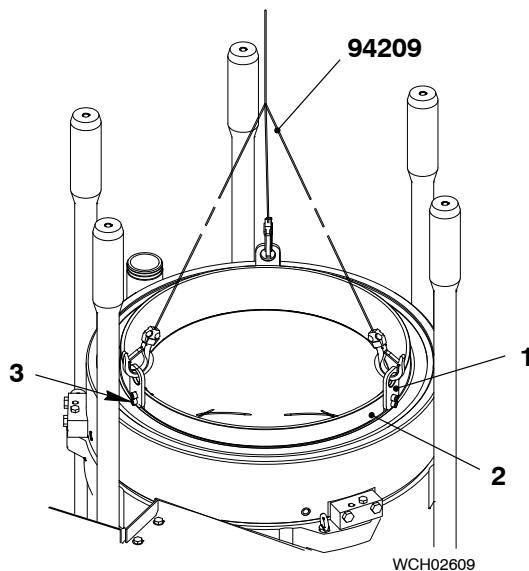

Fig. 13
- 28) Connect the crane hook to the lifting tool (94209, Fig.13).
- 29) Attach the four plates (1) to the antipolishing ring (2) with the four screws (3).
- 30) Put the antipolishing ring (2) into the cylinder liner.